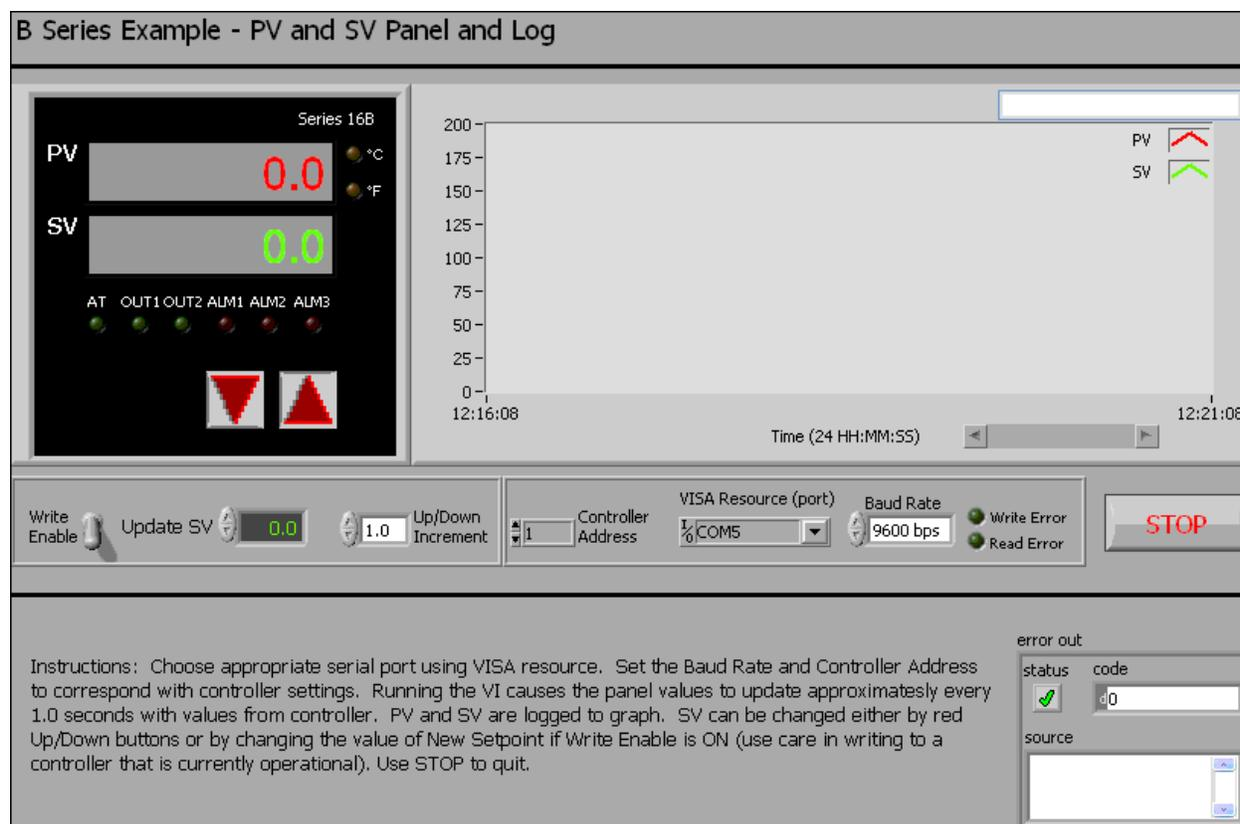

Figure 3 - B series Example - PV and SV Panel and Log.vi front panel
**B series Example PV and SV Panel and Log.vi** The purpose of this VI is to simulate the front panel of the Controller, showing the PV and SV values, temperature units, alarm LEDs, output LEDs and autotune status LED. The trend values of PV and SV are also logged to a chart on the front panel at an update rate of approximately 1 second. The front panel of this example VI is shown in Figure 3.